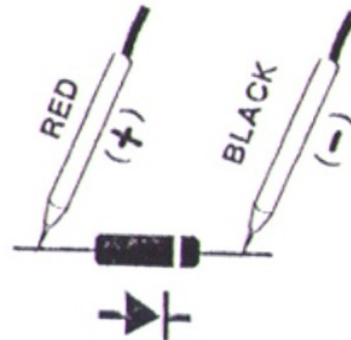

Fig. 2
- 4) a. When connected with polarity as shown in Fig. 2, a forward current flow is established and the approx. Diode Forward Voltage (VF) value in volt will appears on the display reading. If the diode under test is defective, " 0.000 " or near " 0.000 " value ( short circuit ) " OL " ( open circuit ) will be displayed.